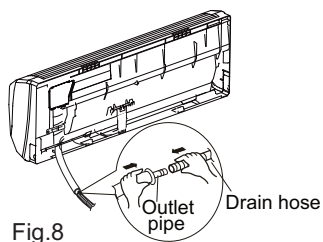

Fig.8
- (1) Connect the drain hose to the outlet pipe of indoor unit.(As show in Fig.8)